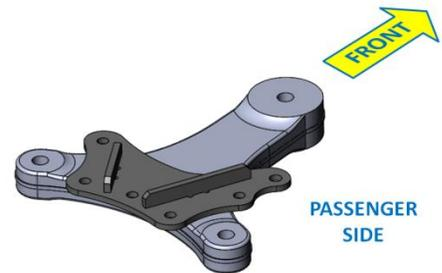

Figure 1
2. Place USI-1030 on top of the Pitman Arm with the flat side down as shown in Figure 1
1. Gain access to SAFE T PLUS® unit. Using a socket wrench with a 9/16-inch socket, loosen **Flanged Lock Nuts** on Tie-Rod Bracket **U-Bolts** so that **Tie-Rod Bracket** is no longer secured to the Tie-Rod. Be sure Tie-Rod can slide freely between the **U-Bolts** and **Tie-Rod Bracket** without binding (*Figure 1*).
2. After completion of vehicle alignment, ensure vehicle front wheels remain in the straight ahead position. Using a torque wrench with a 9/16-inch socket, torque **Flanged Lock Nuts** on Tie-Rod Bracket **U-Bolts** to **20 foot pounds** (*Figure 1*).